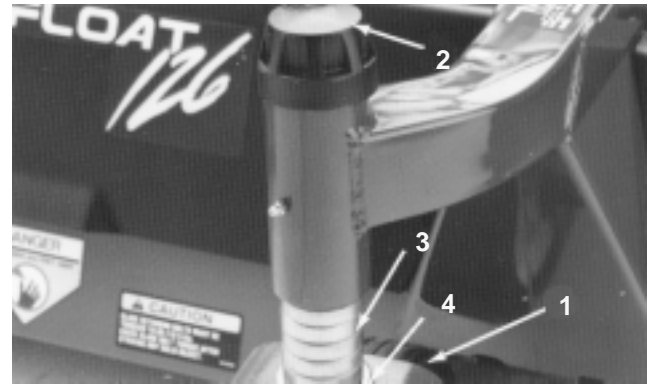

Figure 11
1. Remove HOC cap from spindle shaft and slide spindle out of front castor arm (Fig. 11). Slide spacers onto spindle shaft to get desired height-of-cut.
2. Push castor spindle through front castor arm, install remaining spacers onto spindle, and install HOC cap to secure assembly (Fig. 11).